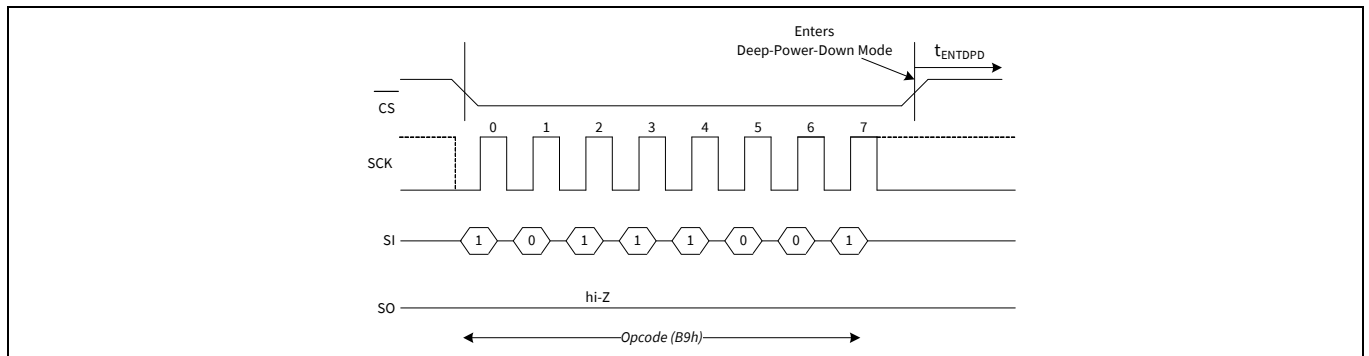
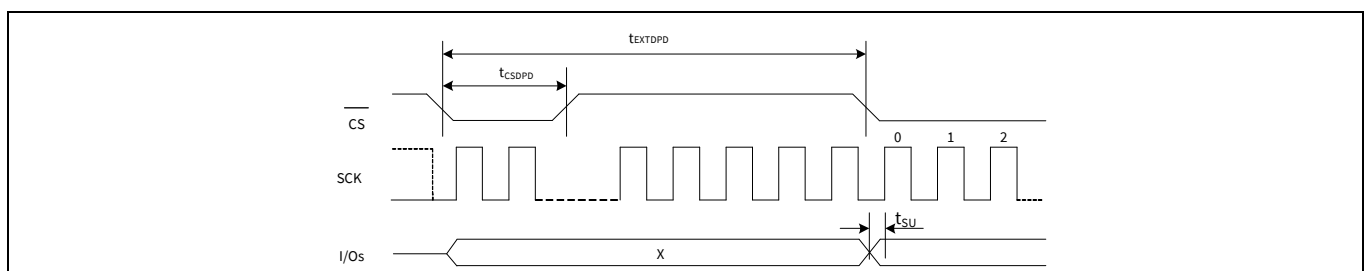

Figure 100 DPD entry in SPI mode
Figure 103 DPD exit in SPI mode
A \overline{CS} pulse-width of t_{CSDPD} or Hardware reset exits the DPD mode after t_{EXTDPD} time. The \overline{CS} pulse-width can be generated either by sending a dummy command cycle or toggling \overline{CS} alone while SCK and I/Os are don't care. The I/Os remain in hi-Z state during the wakeup from deep power down. Refer to Figure 100 for DPD entry and Figure 103 for DPD exit timing.
- The timing details shown in the Figure 100 are applicable as is in DPI and QPI modes.